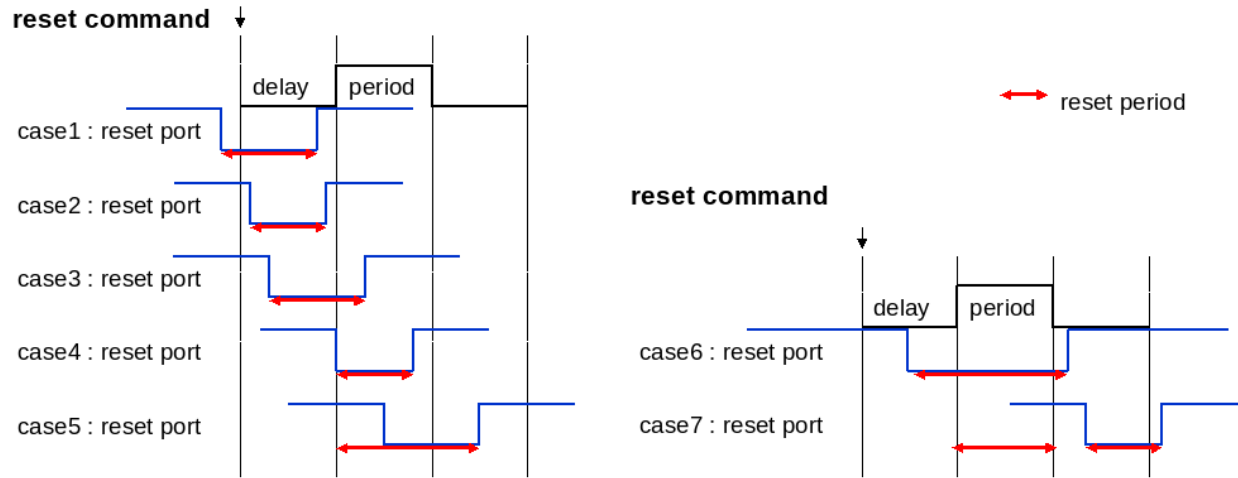

Figure 7-5: Relationship between software reset and hardware reset
- The AIR has hardware reset (presetn) and corresponding software resets, users can reset AIR by software reset via Python IF. The Figure 7-5 shows the relationship between software reset and hardware reset.